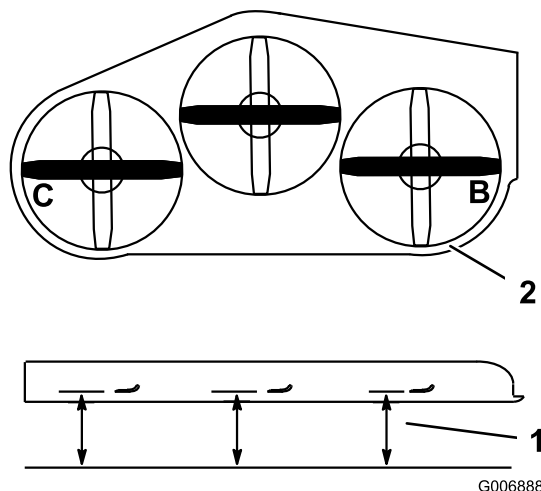

Figure 90
3. Position the blades side-to-side. Measure at the **B** and **C** locations from a level surface to the cutting edge of the blade tips (Figure 90).